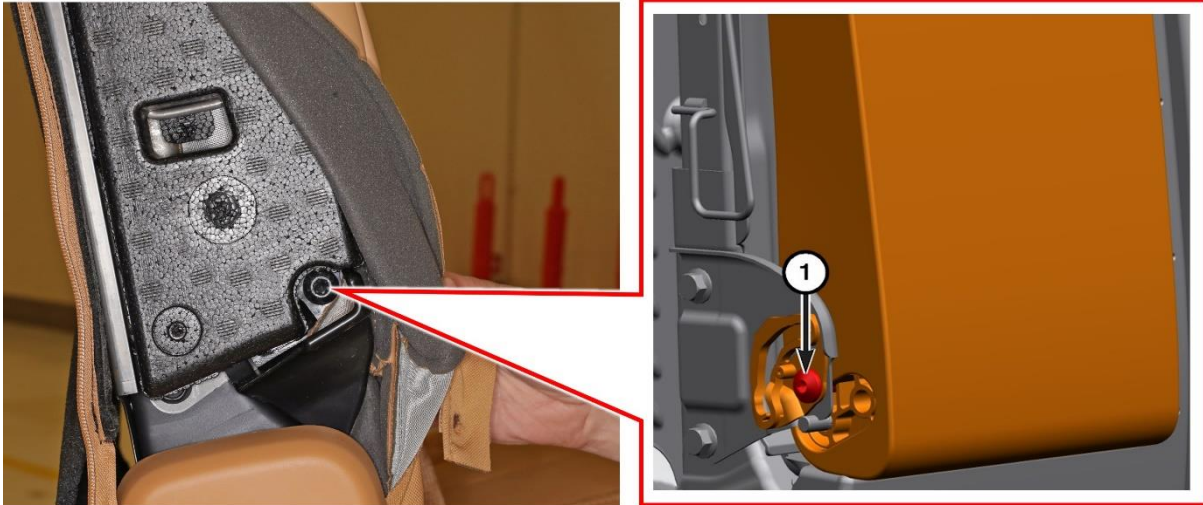

Figure 20 – Armrest Fastener
- Remove the fastener (1) on the right side of the armrest (Figure 20).